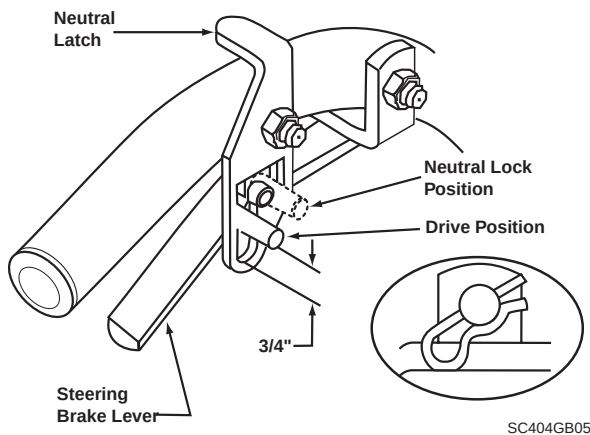

Figure 4. Steering Control Rod Adjustment
1. Adjust the steering control rods so that there is approximately $\frac{3}{4}$ " clearance from the bottom of the rod to the bottom of the neutral latch slot when in the drive position. (See Figure 4).